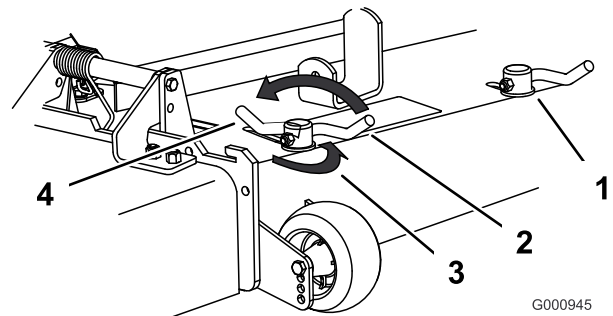

Figure 22
3. To adjust the cam locks, swing the lever up to loosen the cam lock (Figure 22).
5. Swing the lever back over to tighten the baffle and cam locks (Figure 22).